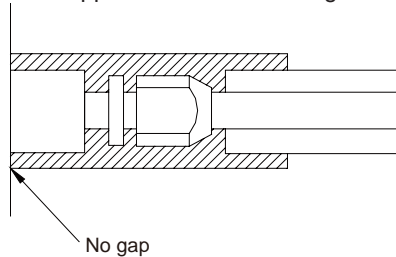

Fig.7
- 2) The joints of the indoor unit should be wrapped with the insulating material and no gap is allowed on the joint of the indoor unit, as shown in Fig.7.